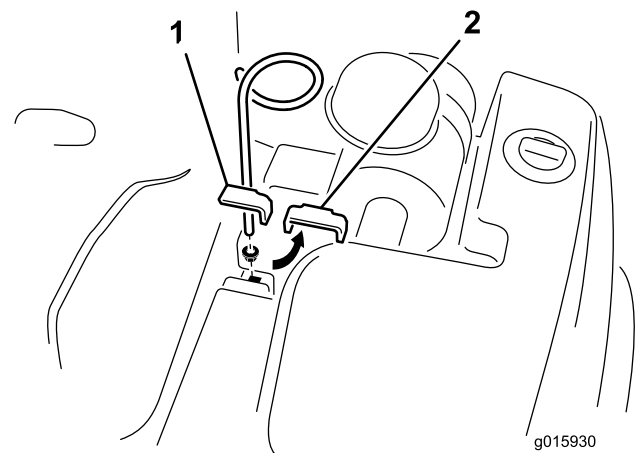

Figure 6
1. Remove the bolt, washer, and nut securing the top hydraulic tank clamp to the frame (Figure 6). Remove and discard the clamp, bolt, washer, and nut.
2. Install the hose guide with the supplied flange nut. Position the hose guide as shown in Figure 6.